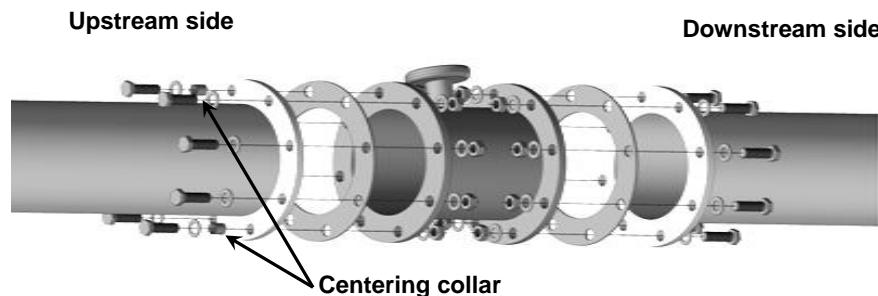

Figure 3-3. Attaching Centering Collars
As shown in Figure 3-3, when installing the flowmeter at the upstream side, insert the centering collars into the gasket and flange holes at diagonal positions.
- 6) Fix the flange type flowmeter using the M16 (for nominal diameters 40A, 50A, 80A, and 100A) or M20 (for nominal diameters 150A and 200A) bolts and nuts with the torque range listed below. (See Figure 3-3.) Be sure to tighten nuts on the opposite sides alternately with even force